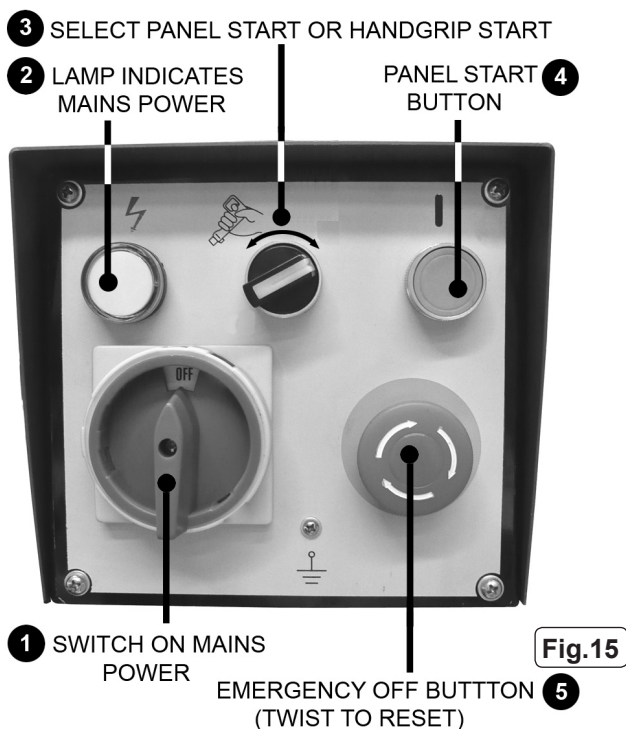

Fig.15
- 5.1.8 Turn on the mains power by turning the switch clockwise. See (1) in Fig.15 above. The power lamp (2) will light.
- 5.1.15 In order to start the machine with the hand grip switch (See 5 in Fig.4) the selection switch on the control panel (See 3 in Fig.15) must be turned to the hand grip symbol.